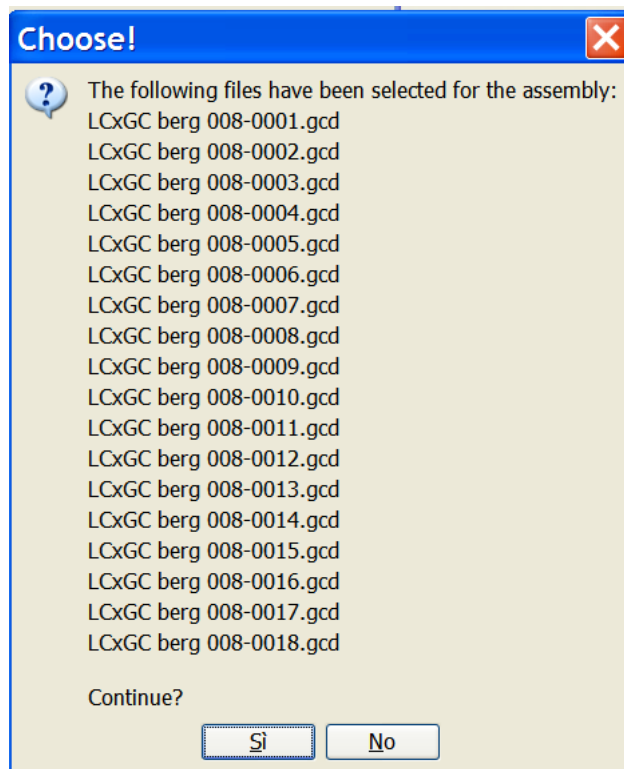

Figure 10.14: Asking for confirmation before assembling
5. Press **Ok** when the desired configuration is achieved. A new dialog box is finally shown, asking for confirmation (see Figure 10.14).